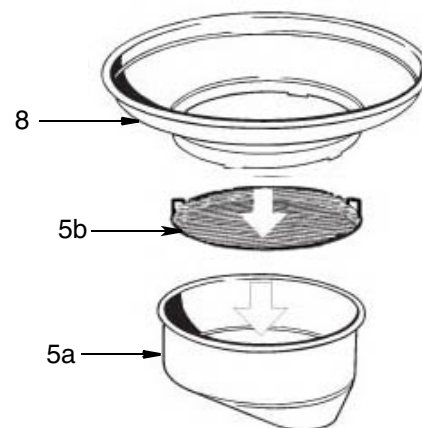

FIG. 6
8. Install the filter tray (5b) into drain bowl (5a) (FIG. 6).
9. Install the plastic funnel extension (8) over drain bowl (5a) (FIG. 6).